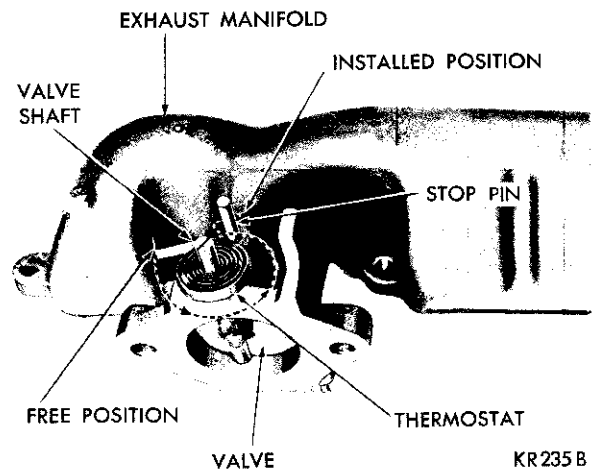
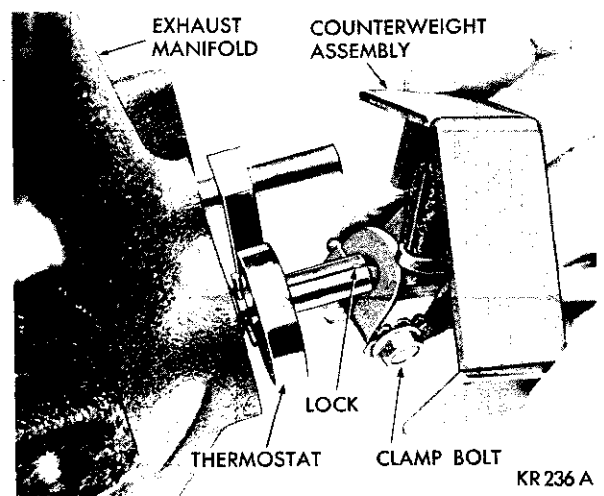

Fig. 8—Positioning the Thermostat
Fig. 9—Installing the Counterweight
(2) Place a new thermostat in the shaft slot with the outer end of the thermostat facing downward on the left side. Wrap the outer end of the thermostat counterclockwise and engage it under the stop pin (Fig. 8).
(3) Place the counterweight on the shaft with the shield in the upper position and insert the lock in the shaft slot.
(4) Center the counterweight on the shaft and turn the valve clockwise until the bumper passes the stop pin (Fig. 9).